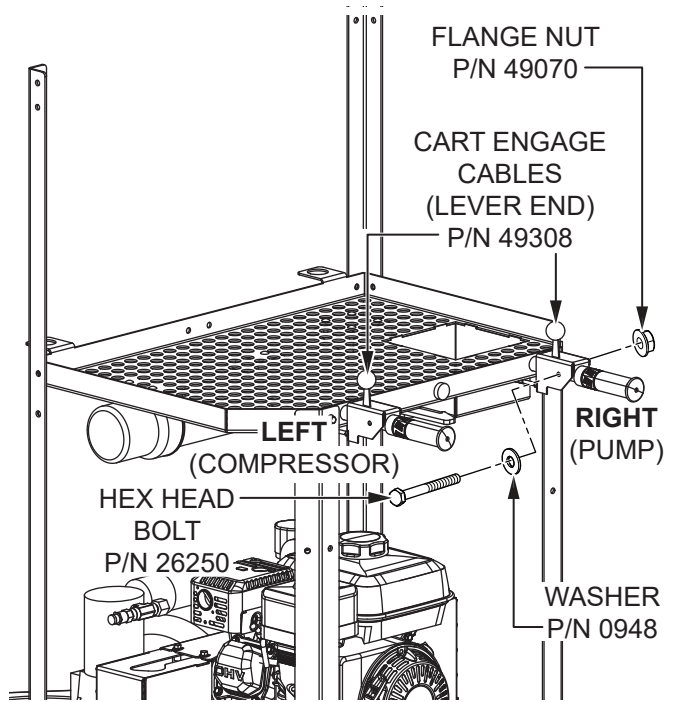

Figure 8. Cart Engage Cable Installation
- Locate the two cart engage cables (P/N 49308). One is connected to the pump, and the other is connected to the compressor. Secure the lever end of the cables to the cart handles with the two 1/4-20 x 1-3/4" hex head bolts (P/N 26250), two 1/4" washers (P/N 0948), and two 1/4-20 flange nuts (P/N 49070). See Figure 8.